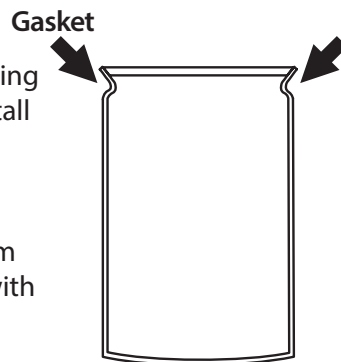

FIGURE 1
2. Lubricate the smaller o-ring with cooking oil and install in groove at top of collector (see Figure 1).